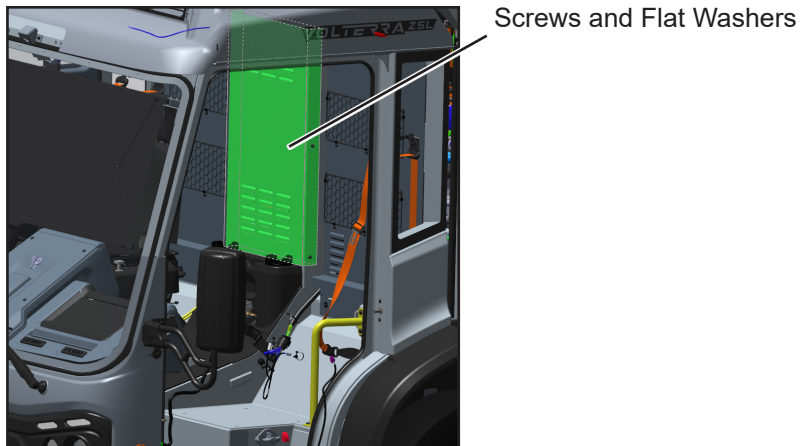

Figure 2 - Back-of-cab (inside) panel
8. Loosen and remove screws and flat washers from the perimeter of back-of-cab (inside) panel. See Figure 2. Retain screws and flat washers for reinstallation.